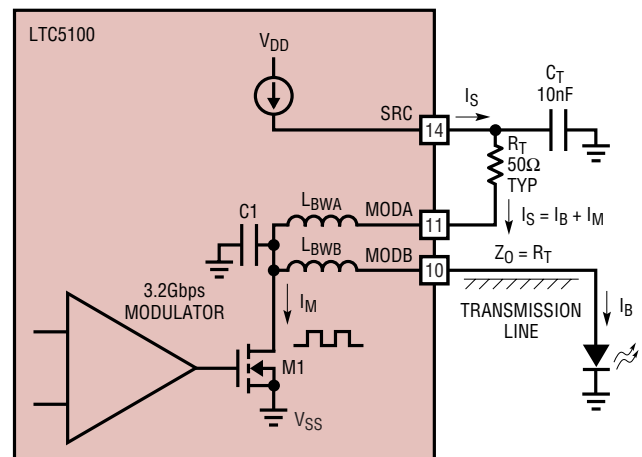
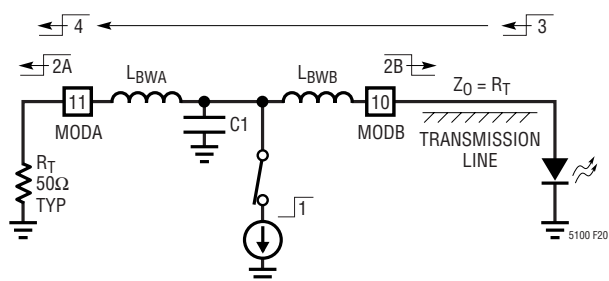

Figure 19. High Speed Details of the Modulation Output
Figure 20. Wave Propagation in the Laser Interconnect
The LTC5100 modulation output presents a resistive drive impedance with very low reflection coefficient. This output design suppresses ringing and reflections to maintain the quality of the eye diagrams in spite of laser impedance variations. The reflection coefficient is sufficiently low that the LTC5100 can drive the laser over an arbitrary length of transmission line, as shown in Figure 19. A well designed transceiver module goes virtually unnoticed in this system. The only practical limitation on interconnect length to the laser is high frequency line loss.
Figure 19 shows how the LTC5100 achieves a low reflection coefficient. The unavoidable capacitance of the high speed driver transistor, bond pads and ESD protection circuitry (C1) is compensated by the inductance of the bond wires ( $L_{BWA}$  and  $L_{BWB}$ ).
The high speed behavior of the circuit in Figure 19 can be understood in greater detail by examining the simplified circuit in Figure 20. In Figure 20 the switched current source (M1 in Figure 19) launches a current step (1) toward the termination resistor (2A) and toward the transmission line (2B) connected to the laser. The laser is typically mismatched to the line impedance and reflects a portion of the incident wave (3) back toward the MODB pin. There it encounters an L-C-L structure composed of the bond wires and driver capacitance. This structure is carefully designed as a lumped element approximation to the transmission line impedance. It therefore transmits wave (3) through the IC package without reflecting energy back toward the laser. The traveling wave passes through the chip largely unimpeded (4) and is absorbed by the matched termination resistor,  $R_T$ .